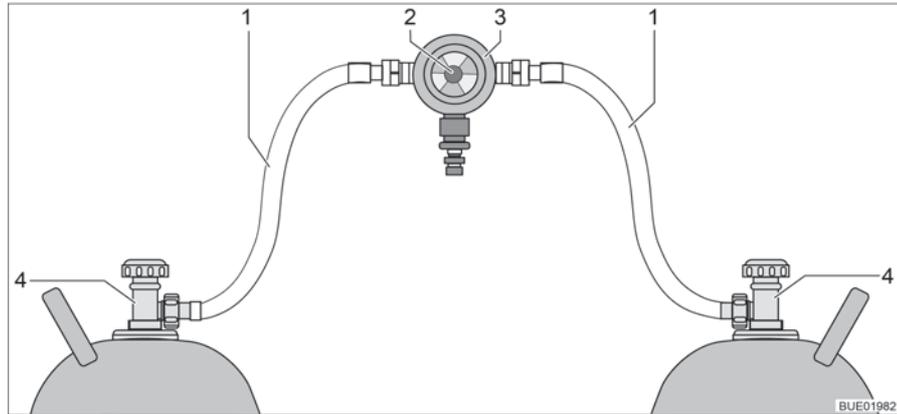
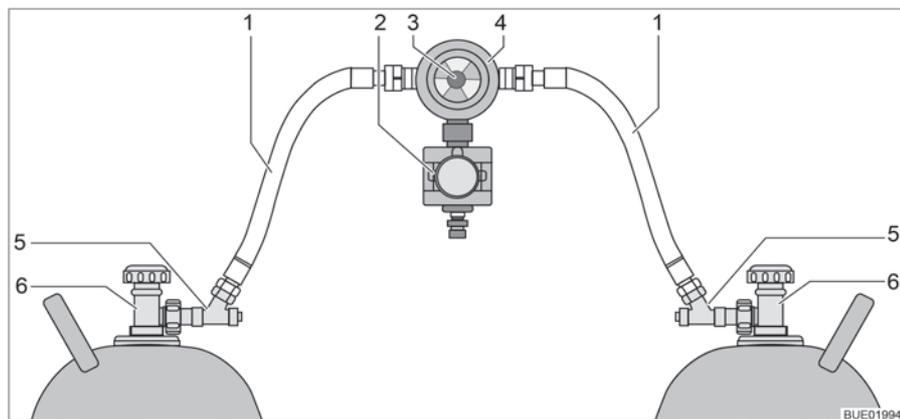

Fig. 131 Gas bottle switching facility
Fig. 132 Gas bottle switching facility with CPU
The gas bottle switching facility consists of a combined gas pressure regulator with reversing valve and indicator (Fig. 131,3). The gas bottle switching facility is installed between the two gas tubes (Fig. 131,1).
The gas bottle switching facility consists of a combined gas pressure regulator with reversing valve and indicator (Fig. 132,4), and an electrovalve (Fig. 132,2). The electrovalve blocks the gas supply to the vehicle in the event of a full braking, an accident, or an unusually great inclined position. The gas bottle switching facility is installed between the two gas tubes (Fig. 132,1) with hose break guards (Fig. 132,5).
Function The gas bottle switching facility ensures a constant gas pressure, regardless of which gas bottle is being drawn upon. The display in the reversing valve shows the filling level of the primary bottle. The gas supply comes from the primary bottle when the display is green. When the display is red the primary bottle is empty. In this case, the reserve bottle is used for the gas supply. Use the knob (Fig. 131,2 or Fig. 132,3) on the gas bottle switching facility to select which of the gas bottles is to be used as a primary bottle and which is to be used as a reserve bottle.
Only the electrical functions can be switched at the operating unit (Fig. 133). The regulator taps on the gas bottles (Fig. 131,4 or Fig. 132,6) must be opened and closed manually.
- Open the regulator taps of the gas bottles (Fig. 131,4 or Fig. 132,6).
- Press the hose break guards (Fig. 132,5) successively for 10 seconds.
- Use the knob (Fig. 131,2 or Fig. 132,3) on the switching facility to select the gas bottle which is to be the primary source of gas (primary bottle). Always turn the knob as far as it will go.
- Close the regulator taps of the gas bottles (Fig. 131,4 or Fig. 132,6).